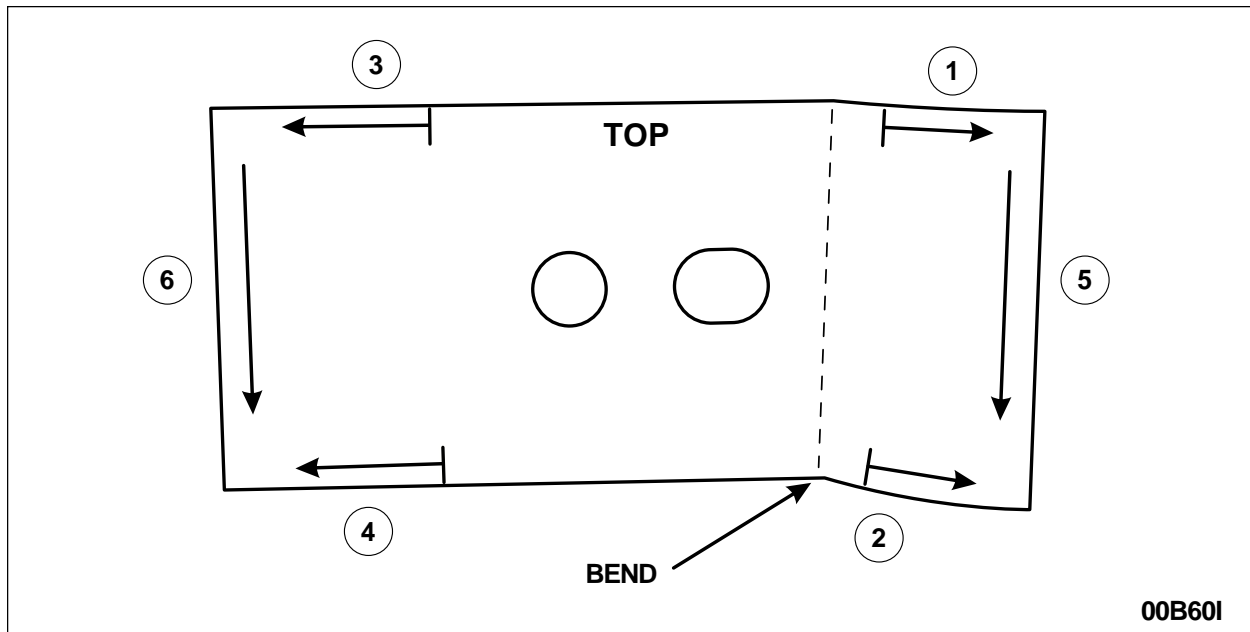

FIGURE 9
6. Tack weld the lower control arm mount reinforcement bracket to the frame rail. Then clamp and tack weld the bracket to the lower control arm mount. Remove the clamp(s). Then finish weld the bracket following the sequence and direction as indicated in the illustration. See Figure 9.